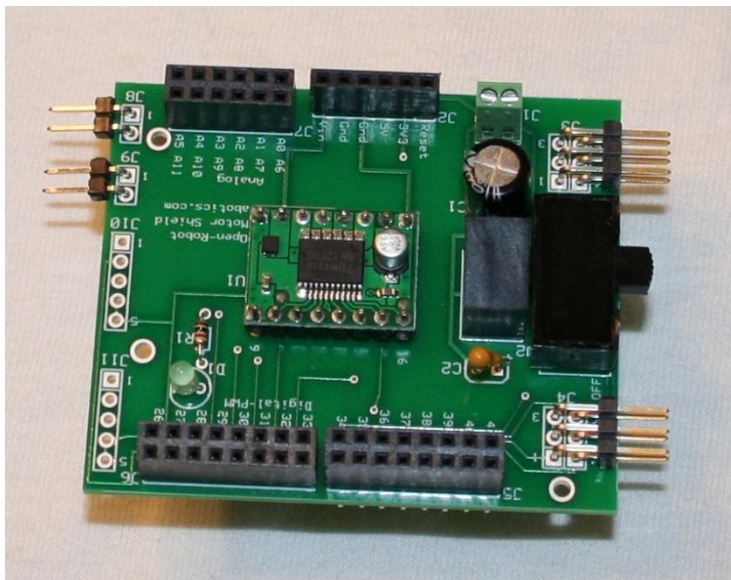

FIG 14. Solder Stackable Headers, J2, J5, J6 & J7.
Refer to figure 14 below for where to solder stackable headers, J2, J5, J6 & J7. Typically I only solder (1) lead on each of the headers and then check alignment with the UNO32™ board prior to soldering the rest. I have even used the UNO32™ board as an alignment jig, so that I know that the pin alignment is correct. Place the Motor PCB upside down and then place the UNO32™ board on top & slightly engage the Motor PCB pins with the UNO32™ board headers. This will properly align the stackable headers on the Motor PCB.